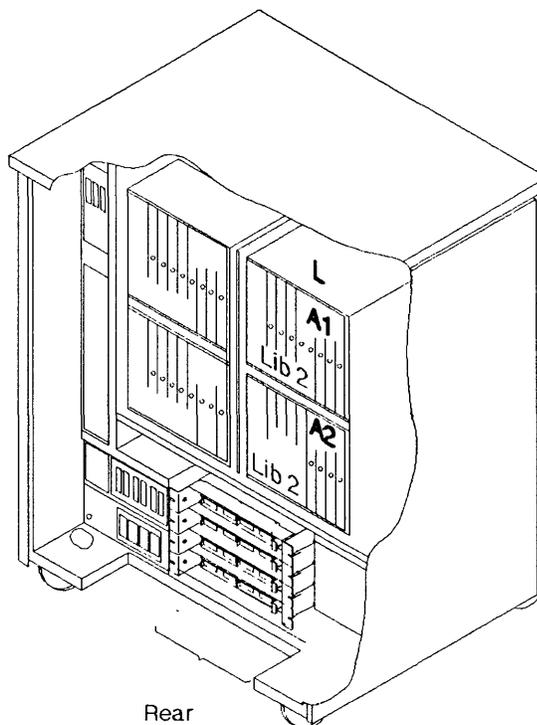

Figure 4-50. Location of the LIC Boards Type 2.
2. For board location refer to Figure 4-50.